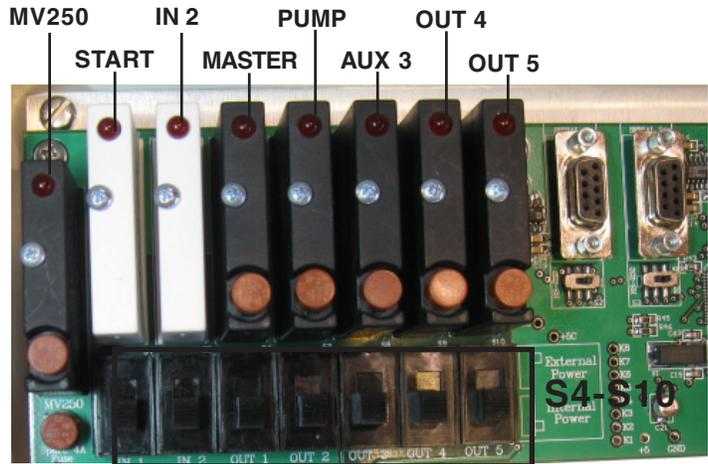

Figure 6: Switch S4-S5 and S6-S10
- Switches S4 and S5 select the configuration of the input signals (see Figure 6).
- Switches S6 - S10 select the configuration of the optically-isolated output relays (see Figure 6).